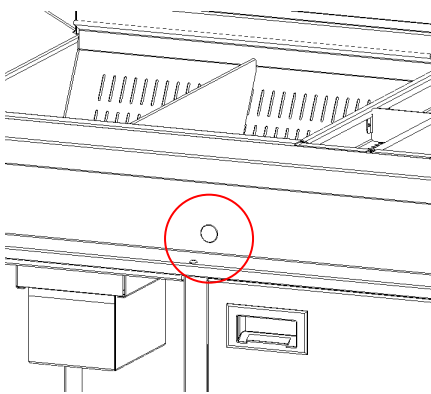
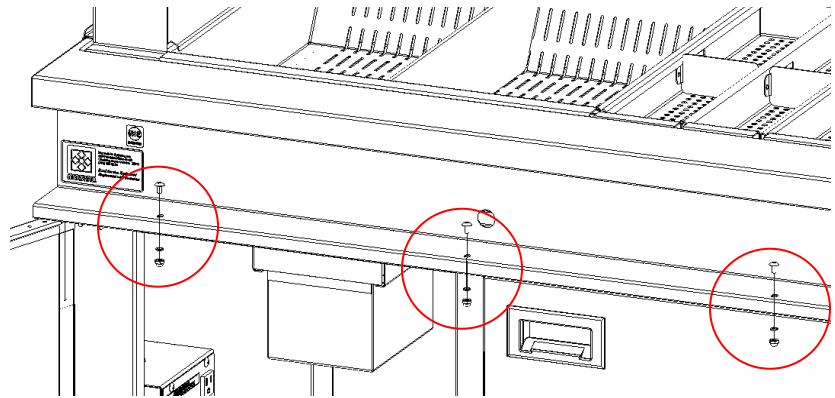

FIGURE 3A - Wire Chase Hole
FIGURE 3B - Cabinet Mounting Holes
1. Remove the snap plug covering the wire chase hole located on the front of the station just above the cabinet doors (figure 3A). Using a Phillips head screwdriver and an adjustable wrench, remove the three screws, washers and acorn nuts covering the station timer box mounting holes (Figure 3B).